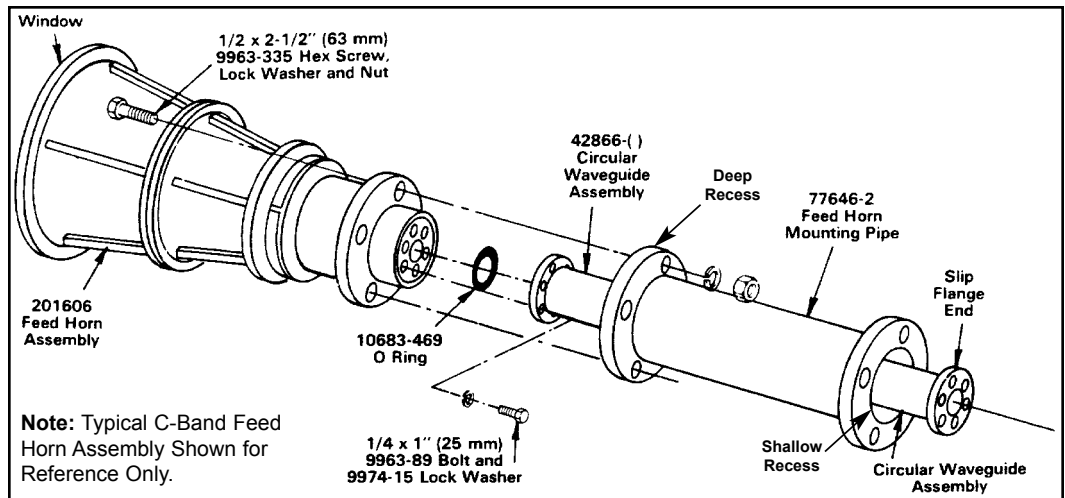

Figure 39
Step 6 Attach circular waveguide assembly to 201606 feed horn assembly as shown in Figure 39. **Note:** Deep recess end of mounting pipe flange should be oriented toward feed horn while shallow recess end should be toward rotating tube assembly.